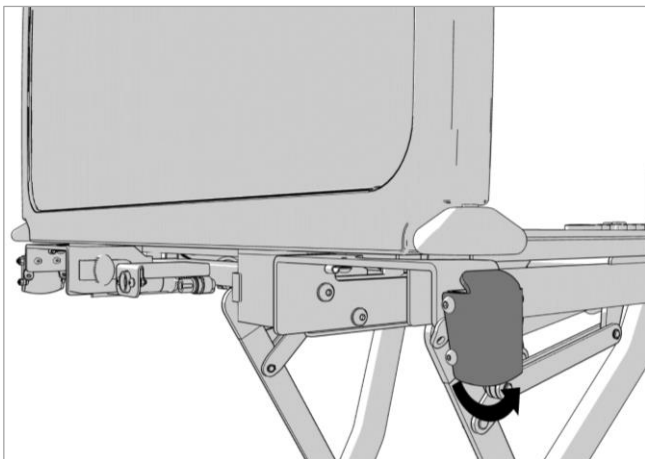
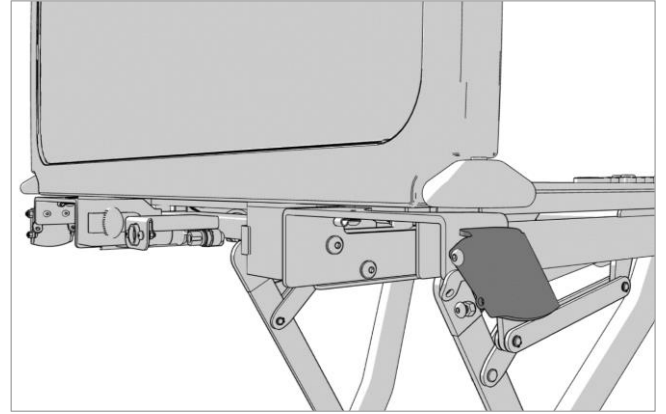

Figure 10.3
Figure 10.4
2. Pull the CPR Lever away from the bed as shown in Figure 10.3 and Figure 10.4 continuing to hold the CPR Lever until the backrest is completely flat.